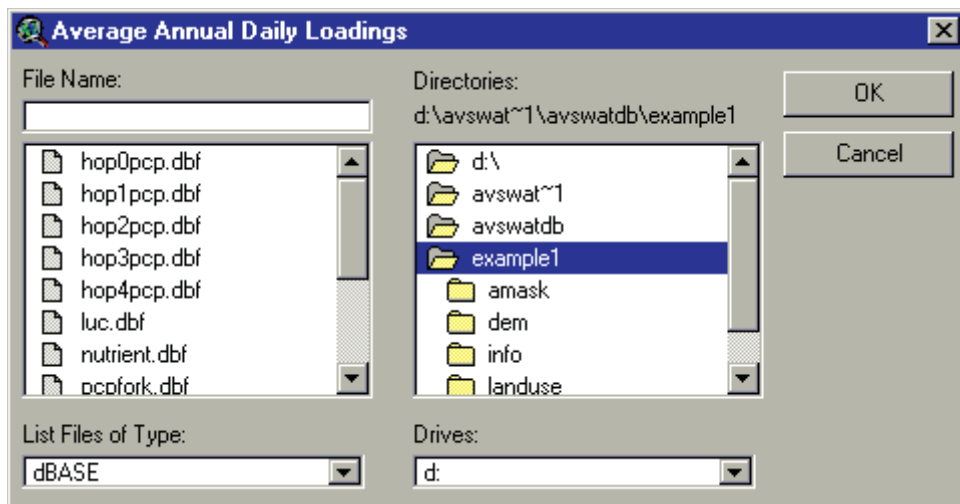

Figure 10.9
- iii. A browser will be displayed, allowing the user to select the dBASE file (.dbf) or text file (.txt) file containing the inlet discharge data from disk (Figure 10.9).